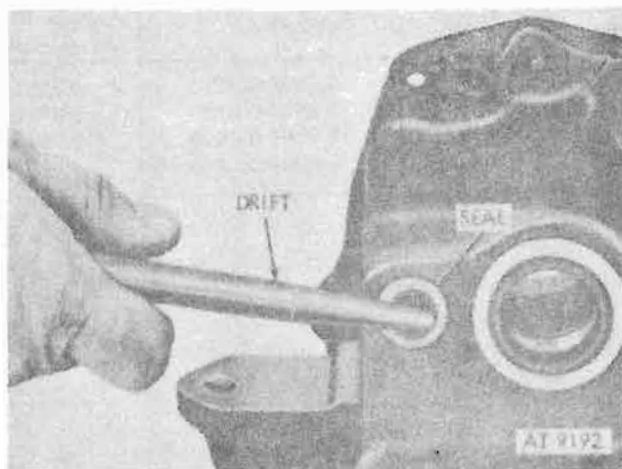

Figure 8-59. Removing shifter shaft seal.
i. Remove shifter shaft seal from transmission case bore (fig. 8-59).